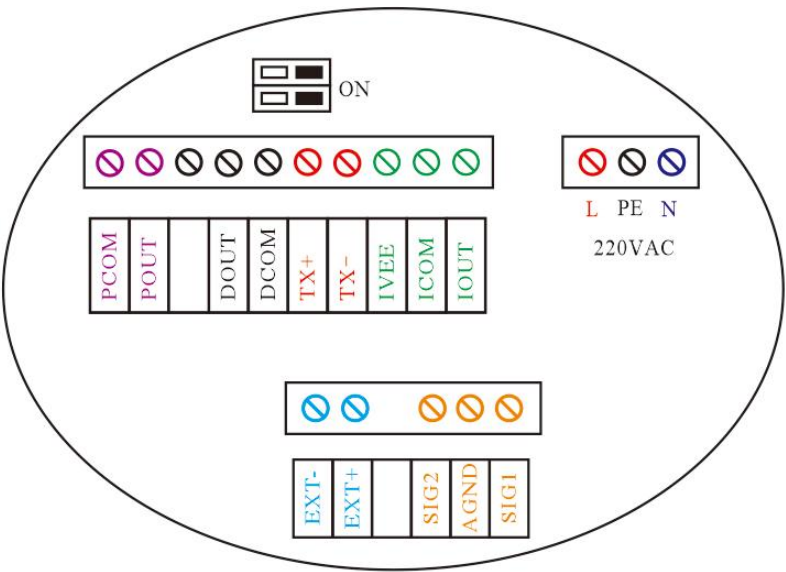
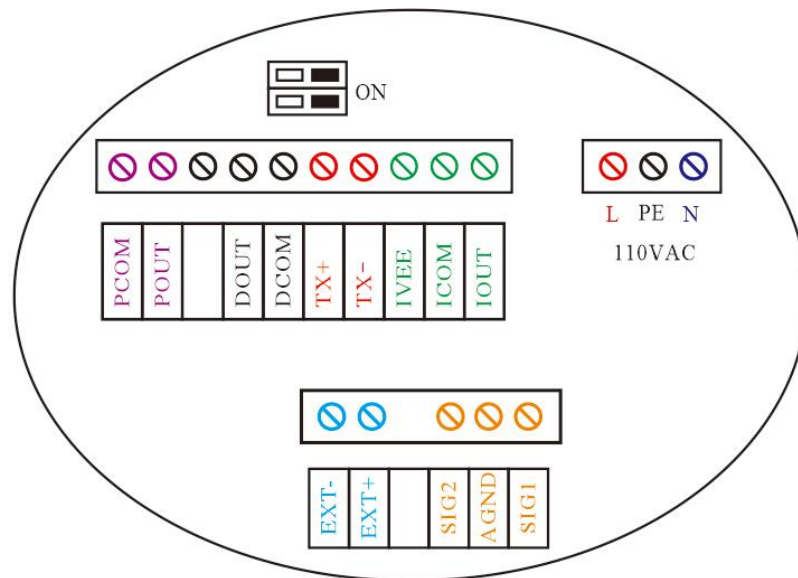
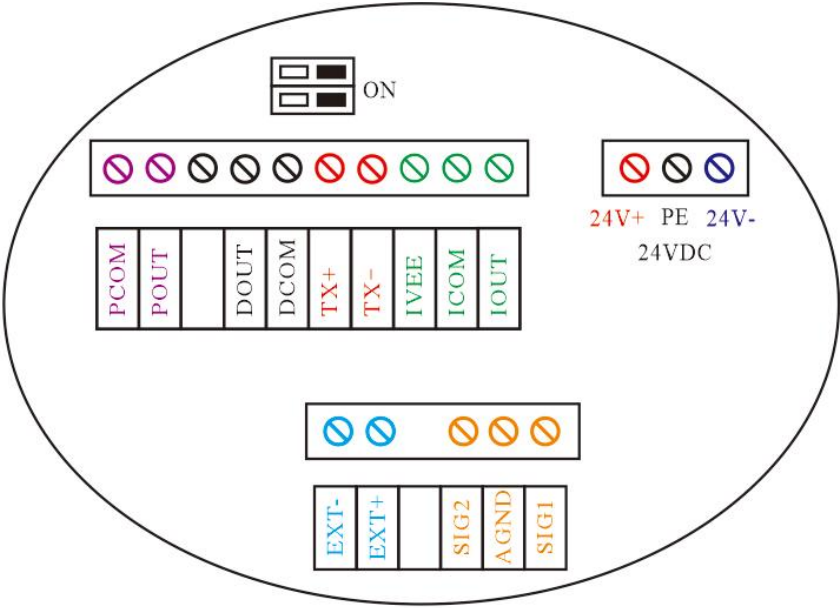
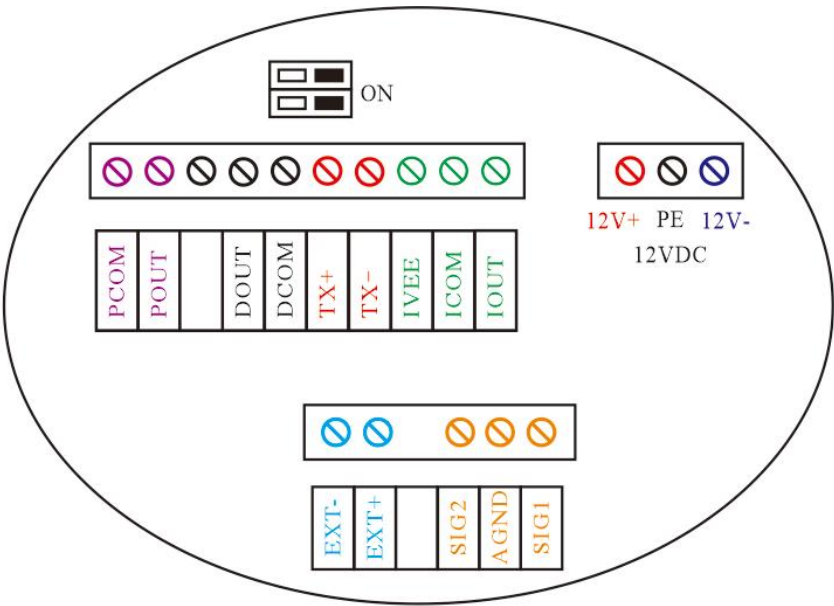

Figure 7: Round meter (220V) terminal block diagram
Figure 7a: Round meter (110V) terminal block diagram
Figure 7b: Round meter (24V) terminal block diagram
Figure 7c: Round meter (12V) terminal block diagram
7.3 Integrated converter wiring diagram and signal definition(Figure 7, Figure 7a,Figure 7b,Figure 7c)